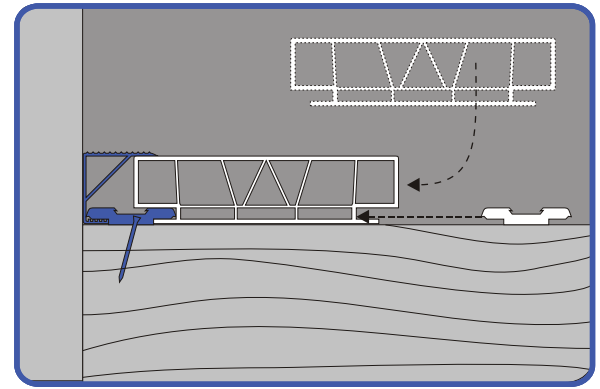

Figure 3
Step 3. Install deck boards. Slide the first deck board under the top of the starter channel. Push the deck board toward the anchor biscuit until the anchor biscuit arm fills the slot along the deck board. Insert anchor biscuits into the slot along the exposed side of the deck board above each joist. Tap anchor biscuits into the slot using a rubber mallet to ensure a snug fit. Secure the anchor biscuits to the joists using 1½" deck screws (see Figure 3). Slide the slot in the next deck board around the exposed anchor biscuits. Insert anchor biscuits into the exposed slot of the new deck board above the joists. Secure the anchor biscuits to joists with 1½" deck screws. Continue sliding deck board slots around exposed anchor biscuits, and inserting and securing new anchor biscuits, until the entire substructure is covered.